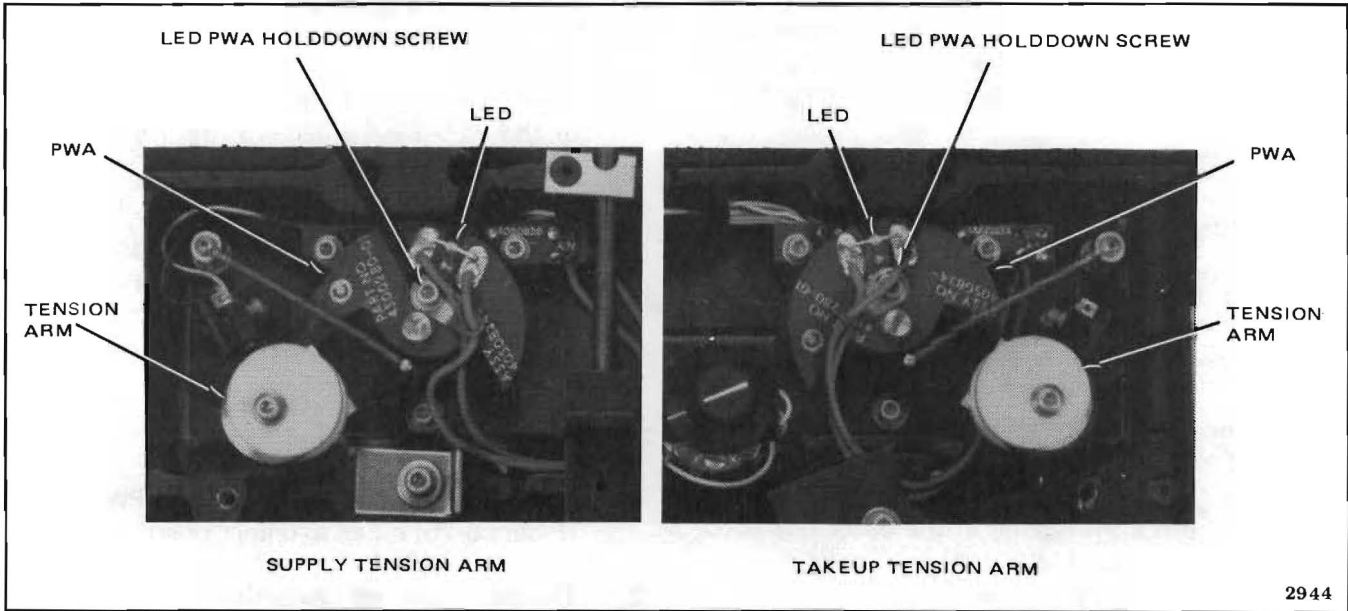

Figure 5-24. Tension Arm Limits Adjustment
- b. Loosen the appropriate LED PWA hold-down screw (Figure 5-24) and rotate the PWA relative to the tension arm. Tighten screw.